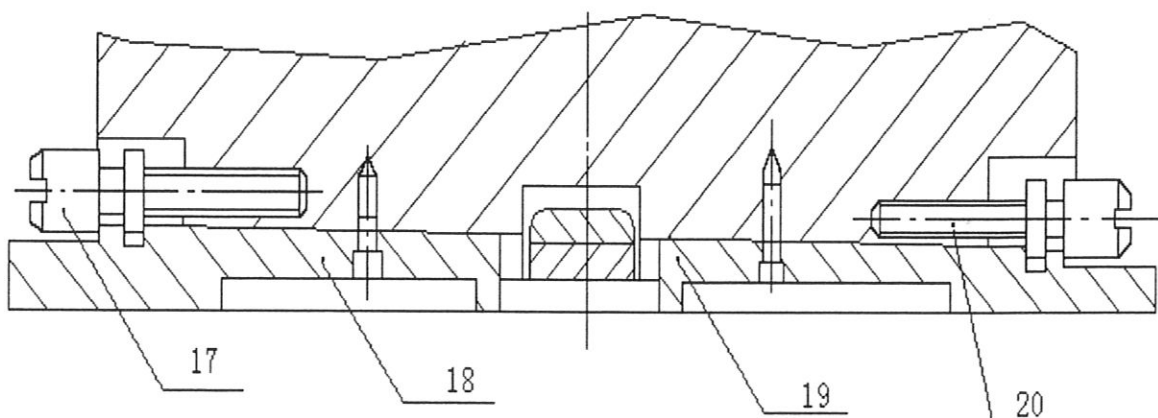

Fig. 30 Clearance adjustment of knee and bed guide-way
7.9 Clearance adjustment of knee and bed guide-way(see Fig.30)